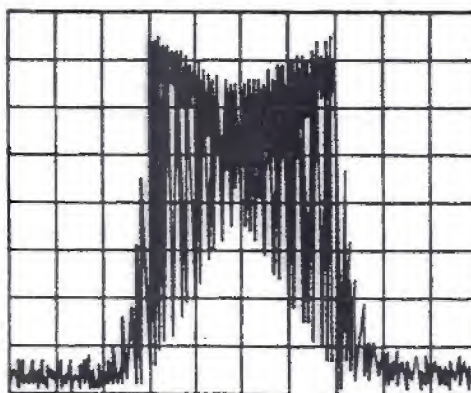

Figure 3-4. FM Functional Check Waveform
19. Set the spectrum analyzer for a 50 kHz frequency span/division, a resolution bandwidth of 3 kHz, and a reference level of 0 dBm. The waveform displayed should be similar to that shown in Figure 3-4.